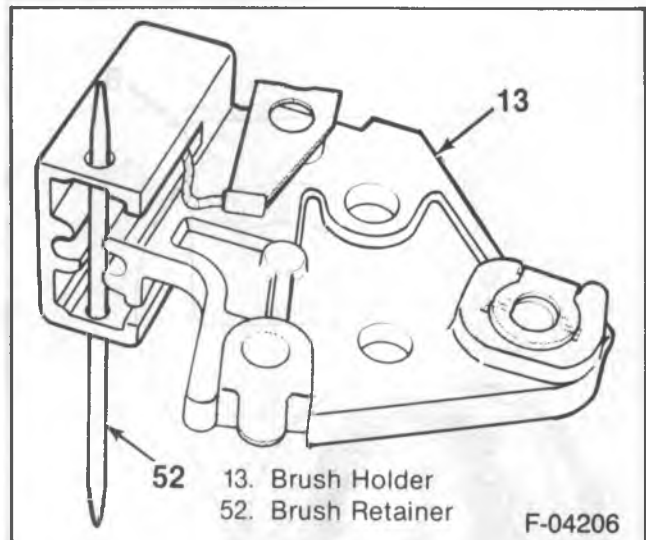

Figure 16—Brush Retainer Installed
4. "BAT" terminal (1) and insulator (36).
5. "BAT" terminal nut (20).
6. Capacitor (18) in the end frame.
7. Capacitor lead to the rectifier bridge (17) with a screw.
8. Regulator (16).
9. Brushes (38) in the brush holder (13).
- Retain the retracted brushes with a toothpick (figure 16).
11. Diode trio (15).
12. Resistor (14).
14. Stator (41) to the end frame, aligning the three stator leads to the three rectifier bridge terminals.